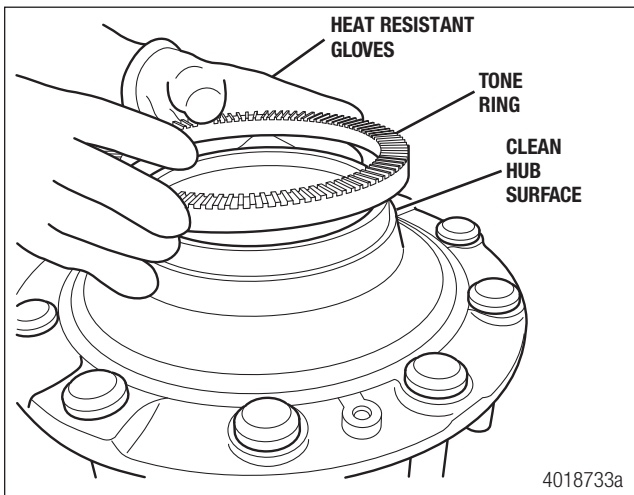

Figure 13.6
- Using heat resistant gloves, drop the ABS tone ring onto the hub journal and press down with hand force. The tone ring must seat against the mounting seat shoulder of the hub. A brass drift can be used to ensure it is fully seated. Figure 13.6.